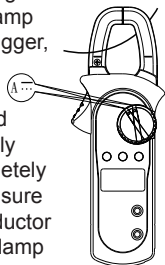

Figure 11
9. DC current measurement (A) (See Figure 11)